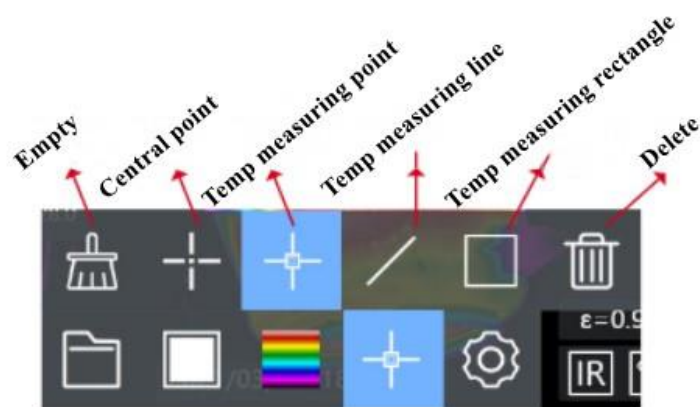

Figure 4.6 Temperature measurement object
Step 2: Touch or click the physical button to switch to the fourth function icon from the left of the main menu, and press the physical "OK" key to call up the temperature menu (as shown in Figure 4.6);